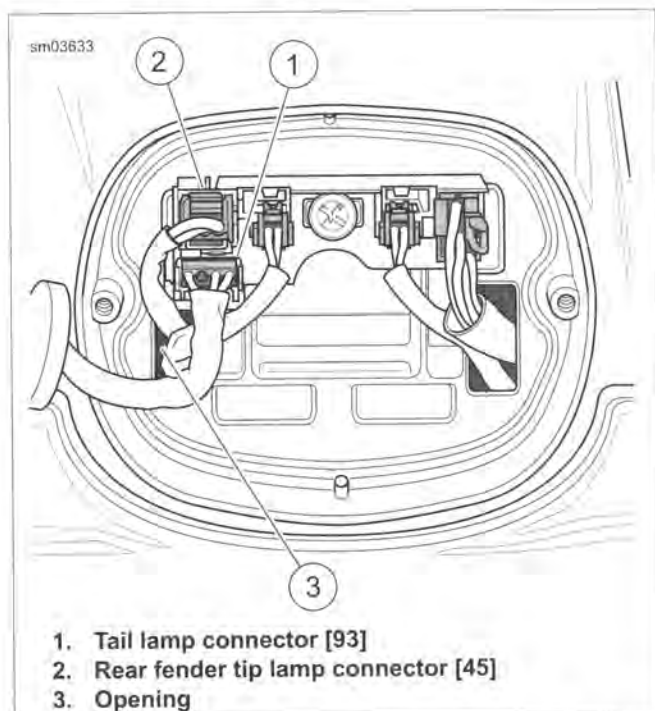

Figure 7-29. Depress Button to Release Socket from Pin Housing
2. See Figure 7-29. Disconnect rear fender tip lamp connector [45] (2).
1. See Figure 7-29. Route rear fender tip lamp harness through hole at bottom of fender and back through opening (3). Attach rear fender tip lamp connector [45] (2).
5. See Figure 7-29. Attach tail lamp connector [93] (1).